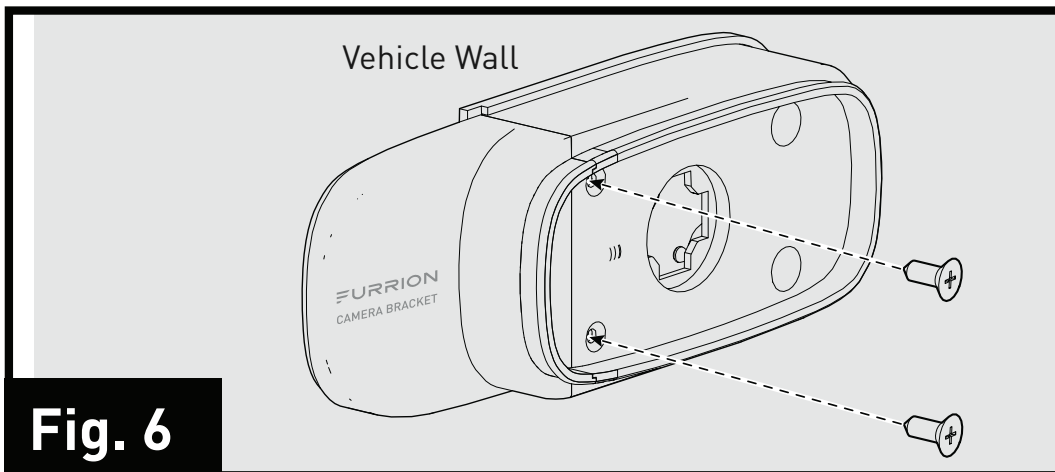

Fig. 6
6. Insert the decorative part into the traffic light base and secure with the two flat self-tapping screws provided. (Fig. 5 and Fig. 6)